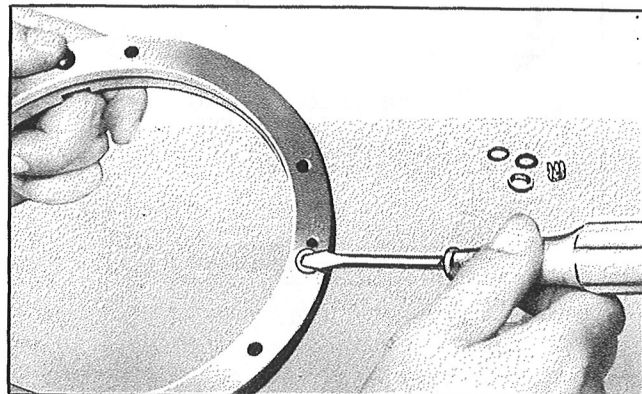

Figure 181—Removal of Control Screw Seals, Models A632S-C1, -B1, -B5
*Step 5.*—On Models A632S-C1, -B1, -B5, disassemble the adapter ring by removing the cup washer, spring, flat washer, and doughnut seal from each of the control screw holes, as shown in Figure 181 and Figure 176-A.